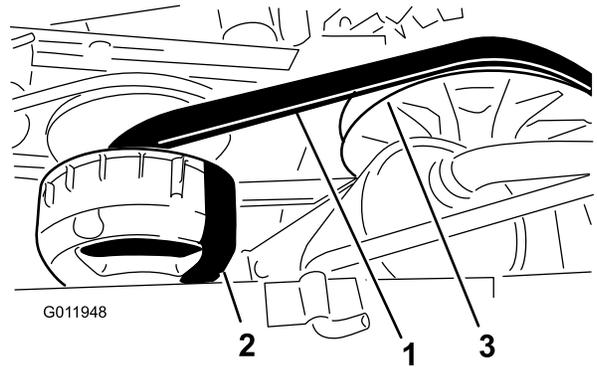

Figure 69
4. Rotate and inspect the belt (Figure 69) for signs of excessive wear or damage.
3. Rotate and route the belt over the secondary clutch (Figure 69).
4. Remove the belt from the primary clutch (Figure 69).
5. Align the new belt over the primary clutch (Figure 69).
- Rotate and route the belt over the secondary clutch (Figure 69).